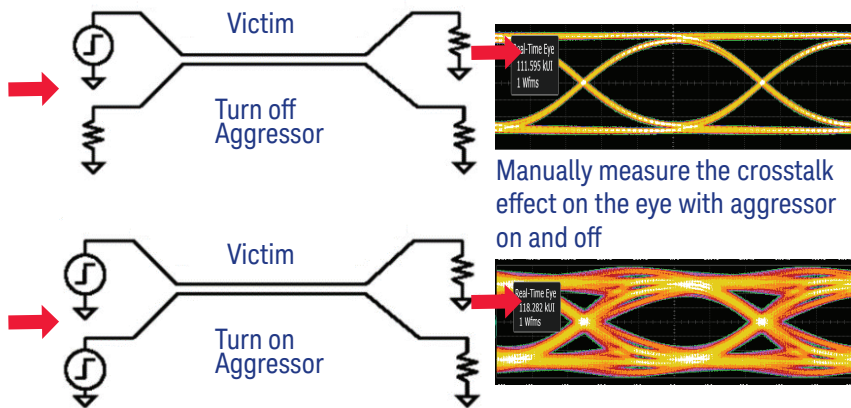

Figure 9. Turning an aggressor signal on and off to determine the effects on the victim signal
- Isolating circuits - Engineers have measured crosstalk in digital communication systems for many years by selectively disabling some channels while enabling others and comparing the eye diagram results. Engineers must measure the crosstalk effects in the system while operating in special test modes. This method is not ideal because it does not reflect the true world operation of the design while it is only partially operational and, often times, designs are not capable of operating in this unusual mode. If a design is demonstrating a closed eye, engineers may not be able to determine which circuit is the cause of the crosstalk and remove it. Additionally, if a closed eye is the result of crosstalk from multiple serial aggressors, many engineering hours can be invested trying to determine the different sources and crosstalk magnitude for each (Figure 9).